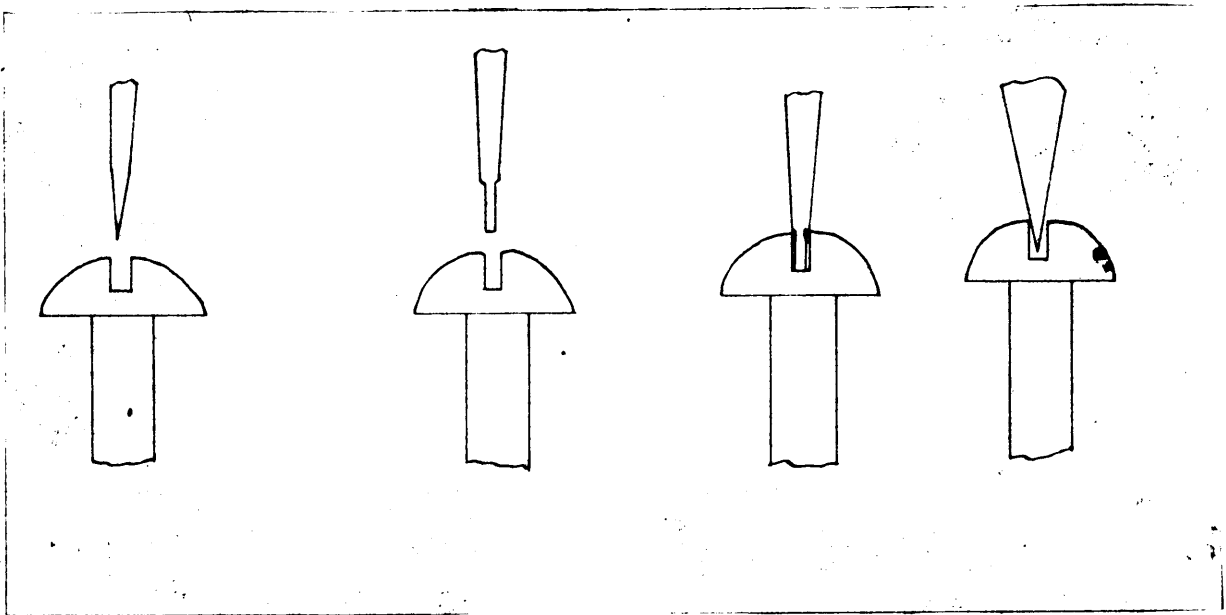

Figure 2.
1. Determine the size of groove in the head of the screw. Figures 2, 3, 4 and 5, give the proper and improper fitting. The end should be blunt and the sides of the screw driver parallel to the slot in the head.